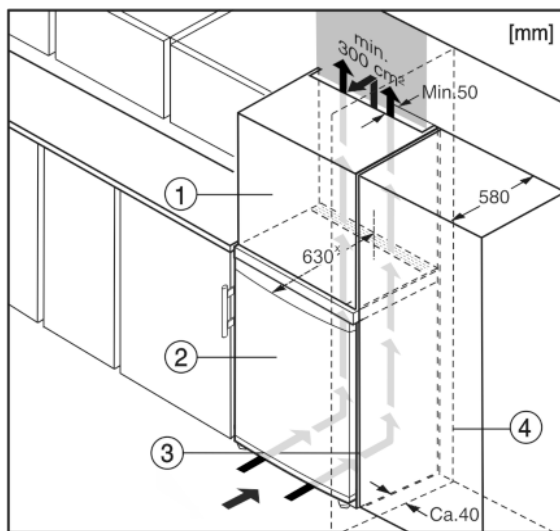

Fig. 5
The appliance can be built into kitchen units. A top cupboard Fig. 5 (2) can be added above the appliance in order to bring the appliance Fig. 5 (1) up to the height of the fitted kitchen units.
When installing with kitchen units (max. depth 580 mm), the appliance can be positioned directly next to the kitchen cabinet Fig. 5 (3). The appliance will project by 34 mm \* at the sides and 50 mm \* in the centre of the appliance in relation to the kitchen cabinet front.
If the appliance is installed with the hinges next to a wall Fig. 5 (4), the distance between appliance and wall has to be at least 40 mm. This corresponds to the projection of the handle when the door is open.